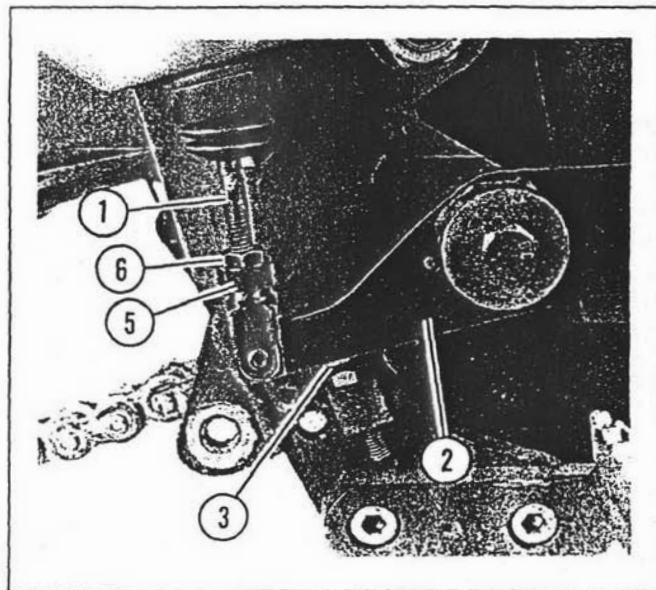
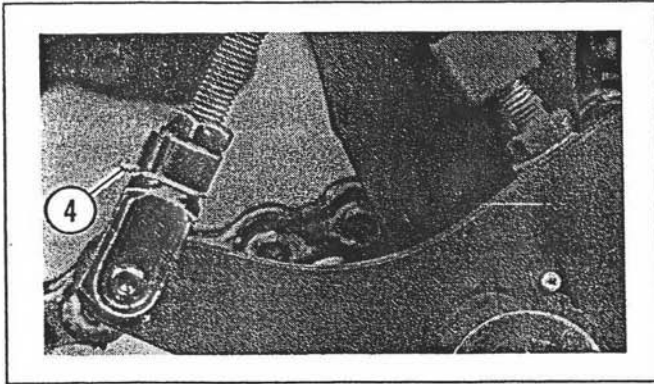

Figure 5-34. Free Play Adjustment
Figure 5-35. Locking Wire
2. See Figure 5-34. Depress brake pedal only as far as necessary for push rod (1) to contact master cylinder piston (a significant resistance can be felt). Hold pedal in this position while making adjustment.
4. See Figure 5-35. If clearance is not 1.6 mm (1/16 in.), use *long nose pliers* and remove and discard locking wire (4).
5. See Figure 5-34. Unsnap clevis lock (5) and swing out of way.
6. Using a 10 mm open end wrench, loosen lock nut (6).
7. Lengthen or shorten push rod (1) by rotating it until clearance is 1.6 mm (1/16 in.).
8. Tighten lock nut (6).
9. Snap clevis lock (5) over clevis.
10. See Figure 5-35. Install new lock wire (4).
1. See Figure 5-35. Using a 5 mm hex key, remove socket head screw (1), lock washer, flat washer, and front brake dust shield (2).